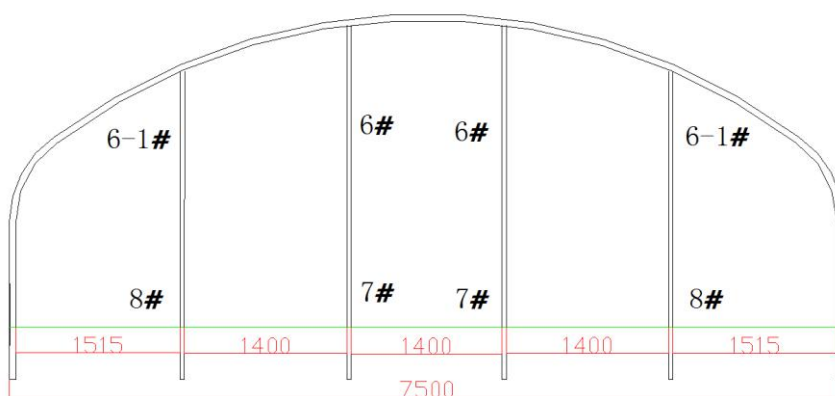

Figure 10
- Assemble and install the gables, as shown in Figures 10, 11 & 12.